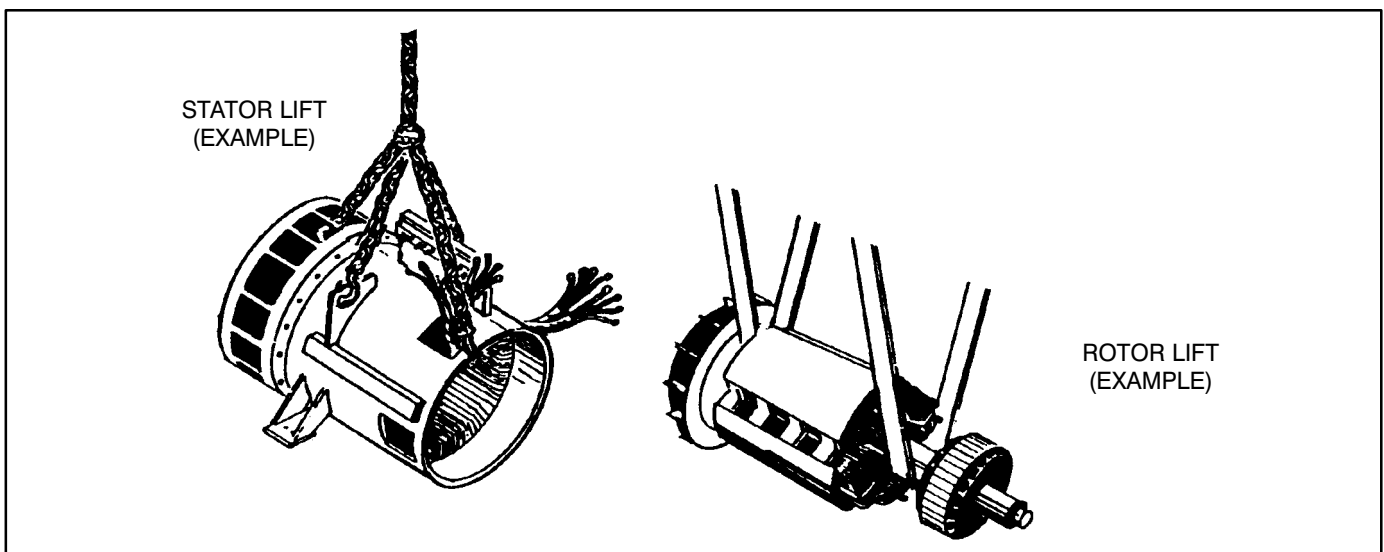

FIGURE 4-10. STATOR/ROTOR LIFT EXAMPLE
28. Reposition or add hoist and sling support for the main rotor, and remove the forklift. See Figure 4-10, Rotor Lift detail.